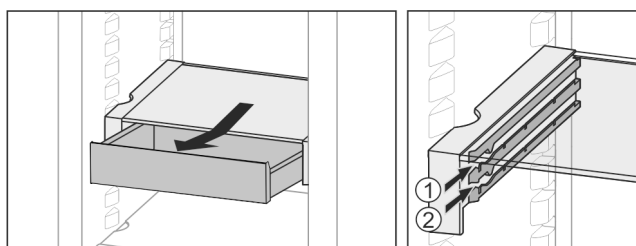

Fig. 29
- Slide back at the height you want *Fig. 29 (1)* or *Fig. 29 (2)*.